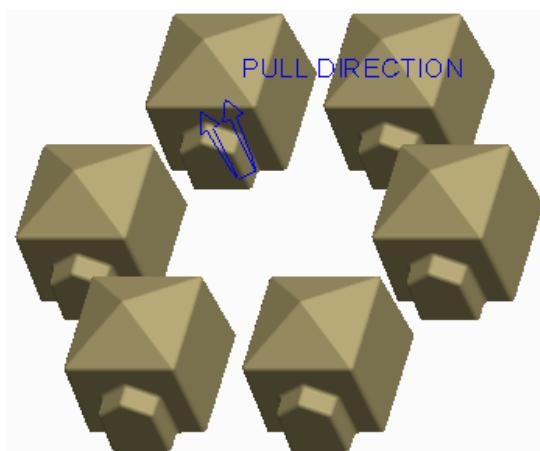

Figure 3 – Circular Cavity Mold Model Layout
- Circular – Places the reference model in a circular layout in the mold model. A Circular cavity layout is shown in Figure 3.